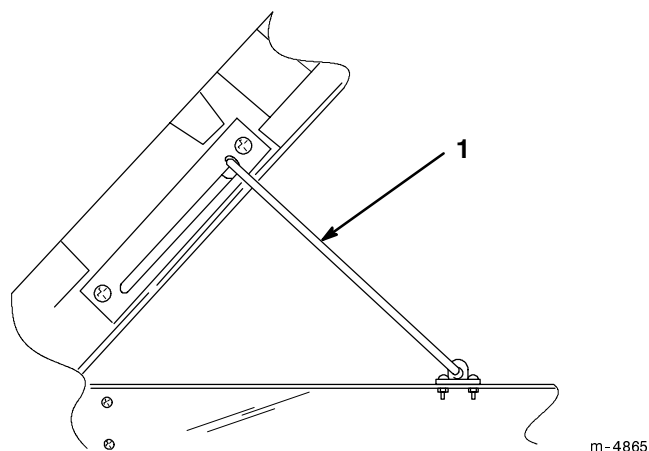

Figure 9
3. Pull up on prop rod to lock in place (Fig. 9).